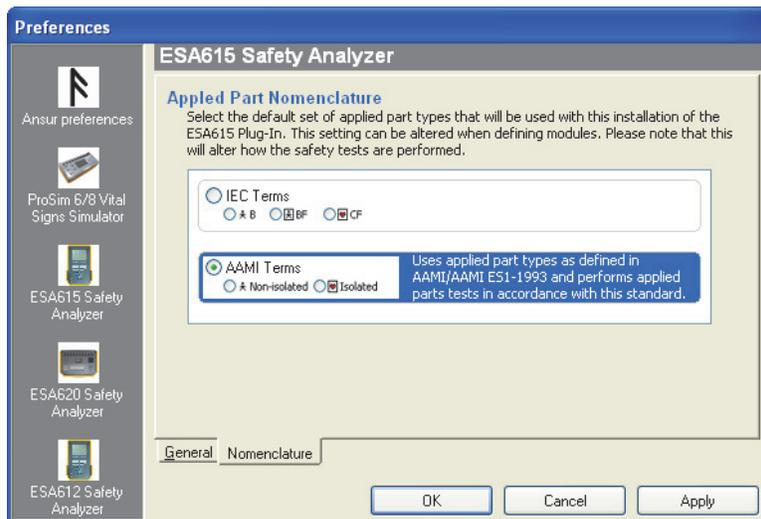

Figure 2-4. Applied Part Nomenclature Preference Screen
4. Click the **AAMI Terms** button to highlight AMMI terms and the description. See Figure 2-4.